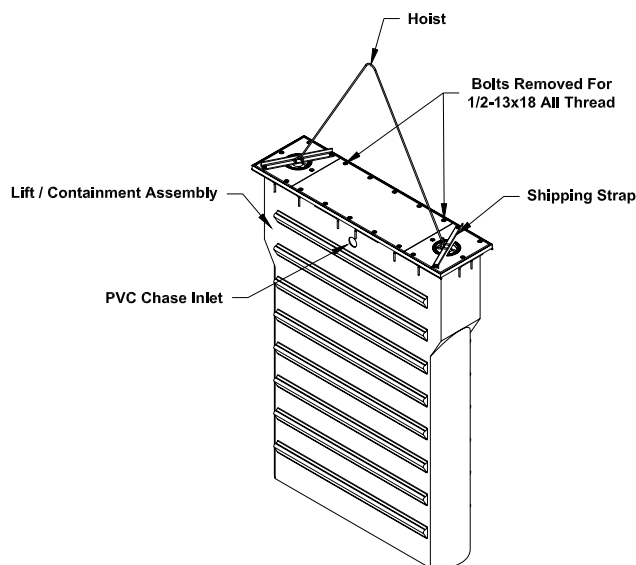

Fig. 3
1. For best balance of lift / containment assembly while lowering into excavation, sling using the shipping straps provided. See Figure 3. DO NOT remove or loosen any of the bearing assembly bolts at this time.
3. Remove the outer two bolts from each end of the center cover plate and replace with 1/2-13 x 18 threaded rods. Attach two 6 x 6 timbers using 1/2-13 nuts and washers, to support the lift / containment assembly on the existing floor or forms. Remove the shipping straps and replace the bolts. Torque the bolts to 60 ft-lbs. Bend concrete tie anchors out 90 degrees and down 45 degrees. Refer to Figures 3 and 4.